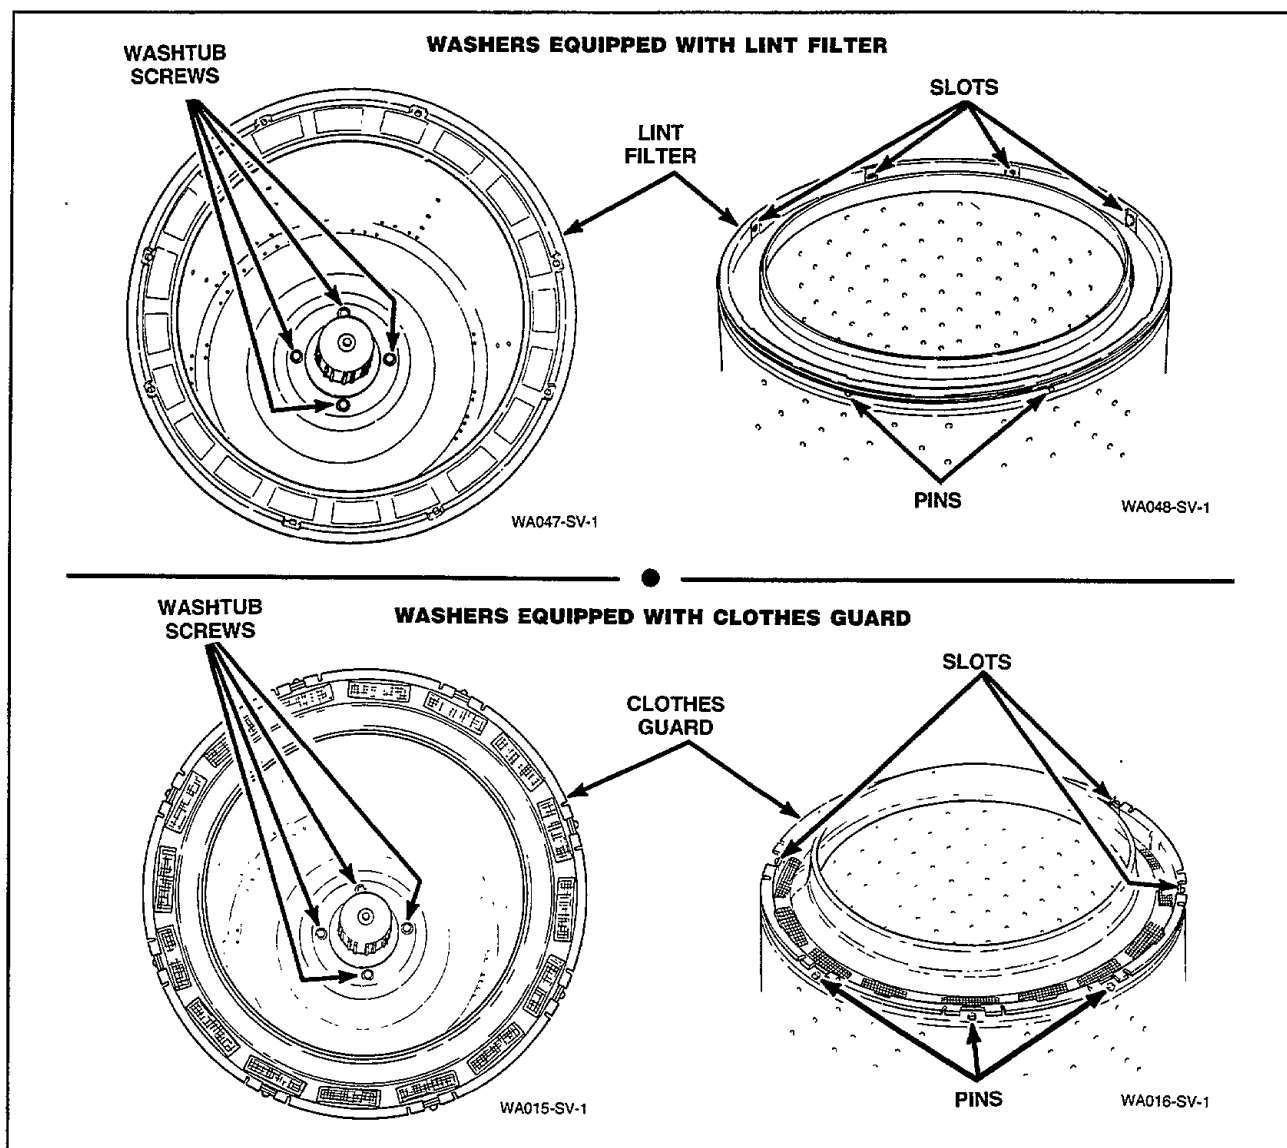

Figure 37
- f. Remove the four screws and washers holding the washtub to the hub, *Figure 37*.
- a. Place a small screwdriver in behind the slots provided in the filter or guard, *Figure 37*.
- b. Carefully pry the pins of the filter or guard out of the holes in the washtub, *Figure 37*.
- j. Remove the four screws holding the washtub to the hub, *Figure 37*.